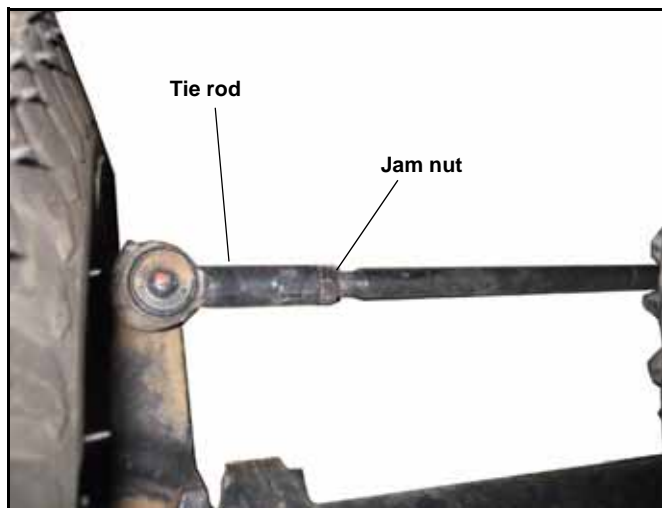

Figure 4-40
5. If the toe-in must be re-adjusted to meet the dimensional requirements, loosen the jam nuts on either end of the tie rod. Figure 4-40